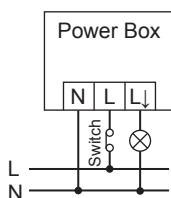

Figure 5
4. Connect as shown in wiring diagram figure 5.
By adding an external switch according to the wiring diagram (Figure 5). Quickly switch it off-and-on twice, to enter Override Mode. The lighting will remain On for up to 6 hours, and then go off and back to Auto Mode. Before the 6 hour delay time ends, if required, switch it one time (off-on) to back to Auto Mode.